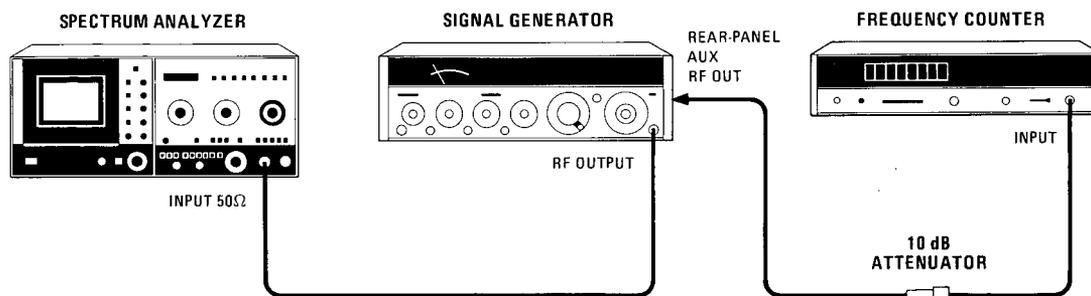

Figure 4-6. Resolution Bandwidth Selectivity Test Setup
- b. Connect equipment as shown in Figure 4-6. Tune signal generator to 321.4 MHz and set output level to approximately -10 dBm. Connect signal generator output to spectrum analyzer EXT MIXER BNC connector.